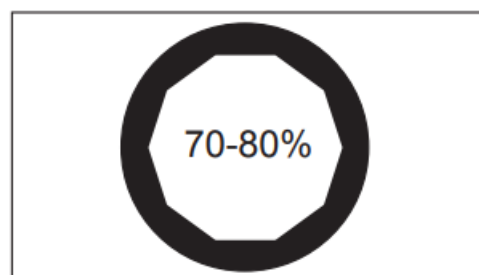

Figure 8
3. **Aperture Iris Diaphragm Adjustment:** To achieve the best contrast, resolution, and depth of field, the aperture diaphragm should be set to approximately 70-80% of the field (figure 8) to match the objective's numerical aperture. Adjust the aperture iris diaphragm with the aperture iris diaphragm lever (figure 6a) located at the bottom of the condenser.